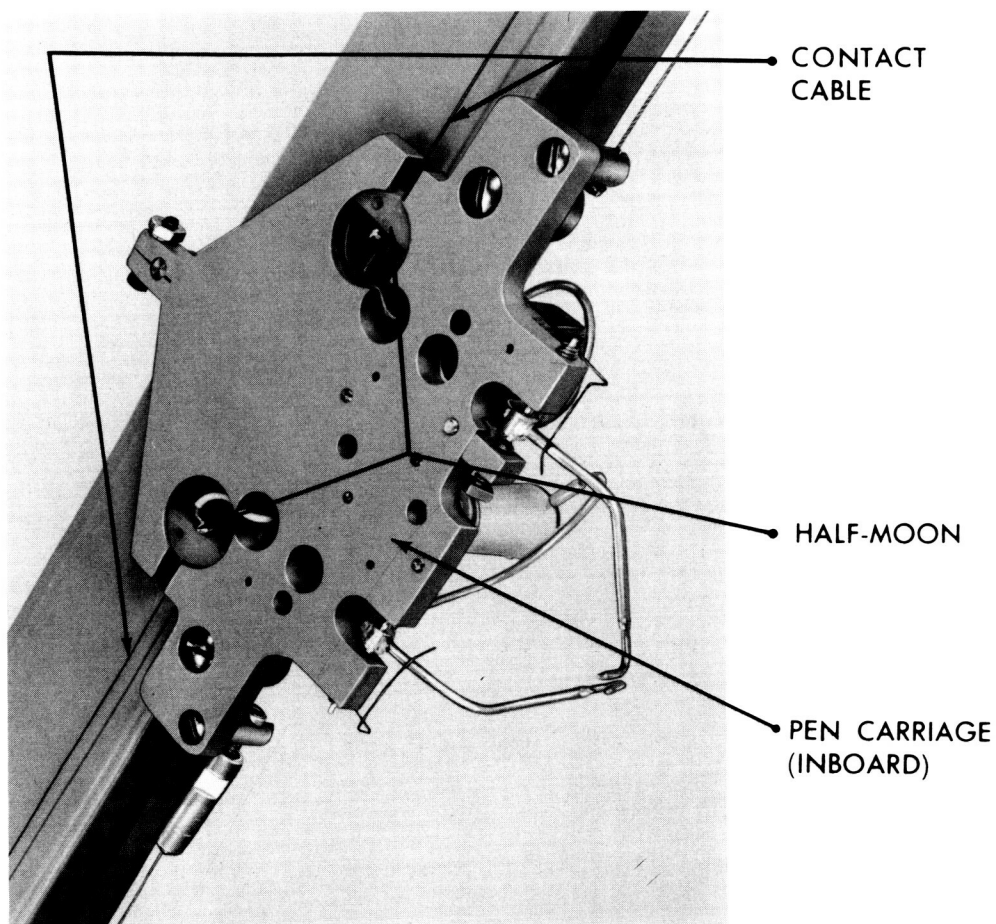

Figure 5-8 Contact Cable Installation
- b. Pass each free end of the cable over its appropriate idler pulley at either end of the extrusion and attach each nylon "half-moon" to its associated termination point on the upper and lower ends of the pen carriage. (See Figure 5-8).